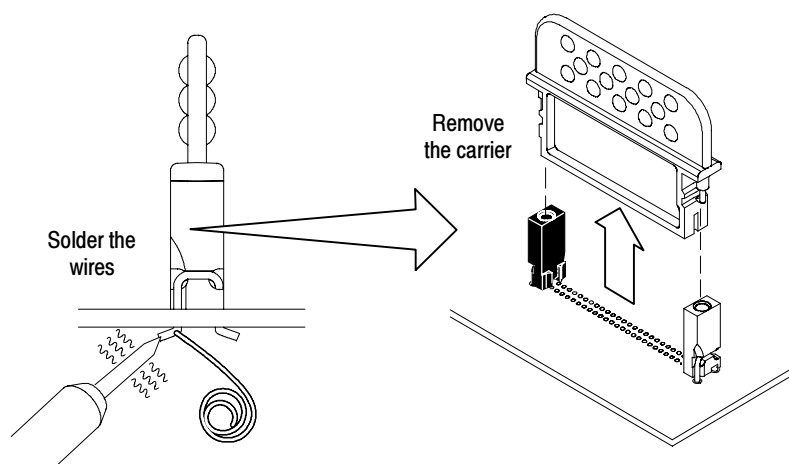

Figure 8: Soldering the retention posts in the PCB
4. Solder the posts to the PCB. (See Figure 8 on page 11.) The posts can be soldered from the top or bottom of the circuit board, but it is best to solder the bottom to avoid the heat-sinking effects of the posts on top.